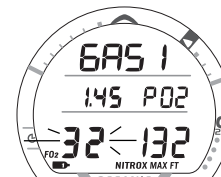

Fig. 22 - Set FO2 GAS 1 (Nitrox)
- Pressing and holding the S button will resume the scroll from 32 (Fig. 22) through 50%, then stop at AIR (or 21%).